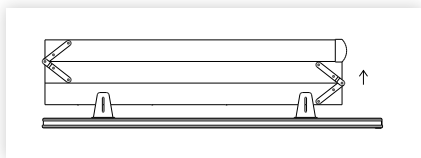

figure 7
2. Lift the three ladder sections up off the lid (figure 7) by adjusting the four bracket sliders to allow adequate toe clearance when climbing the ladder.
1. Before proceeding any further make sure the ladder has been adjusted to allow for adequate toe clearance when climbing the ladder (figure 7)